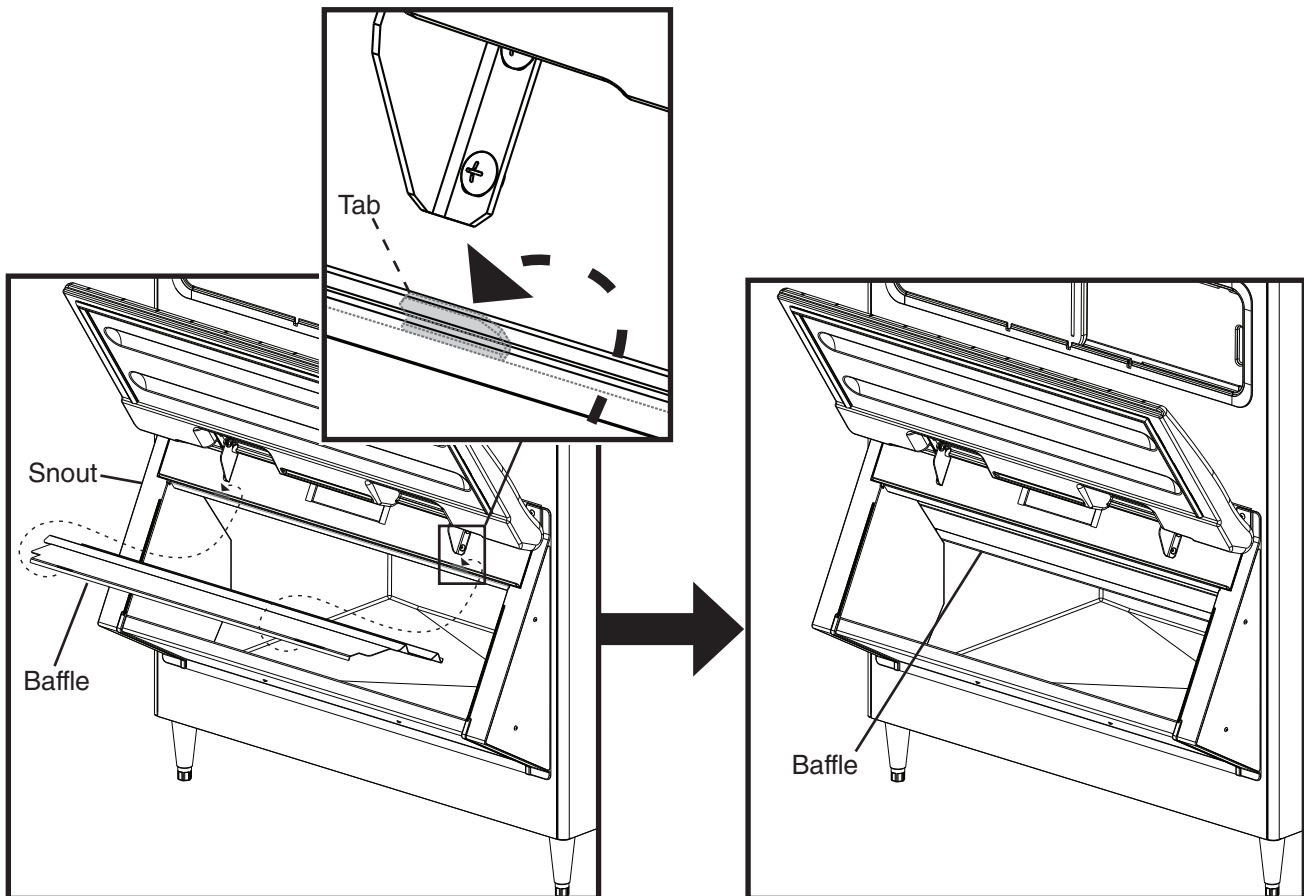

Fig. 3
- 1) Place the baffle into the ice storage bin through the snout. Raise the baffle up and engage the two holes on the front edge of the baffle with the two tabs on the upper, inside lip of the snout. See Fig. 3.